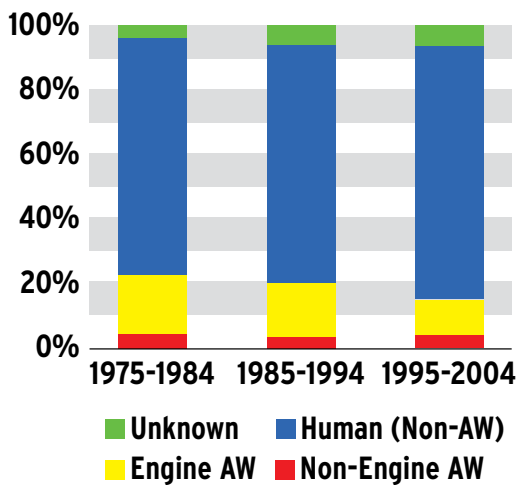

Figure 6 - 206 Accident Cause Trends of 30 Years
Airworthiness failure causes contribute little to all causes. Civil helicopter models and military surplus helicopters on civil registries are tracked by Rotor Roster (Ref. 11). This 206 fleet has flown 51,633,000 hours worldwide in the 30-year period of 1975 through 2004. The civil 206 series accounted for 19.5% of all 22,647 civil models registered worldwide at the end of 2004. Likewise, the 206 accounts for 20.1% of the 11,973 helicopters registered in the USA. Overall, Bell has produced 6,151 civil Model 206s since the 1966 introduction to the civil fleet. The percentages of 206 accident causes are shown in Fig. 6 for three 10-year periods worldwide. The lower two values are airworthiness (AW) failure initiated accidents. Accidents caused by aircraft failures, other than engine, are labeled as Non-Engine AW, 30 Years 206 Accident Causes Worldwide accounting for about 4% of accident causes. The Engine AW (including confirmed failures and suspected/claimed power losses) has been reducing and presently accounts for 11.2% of accident causes. Thus about 85% of all accidents causes are not airworthiness related. What can we do about those 85% causes?